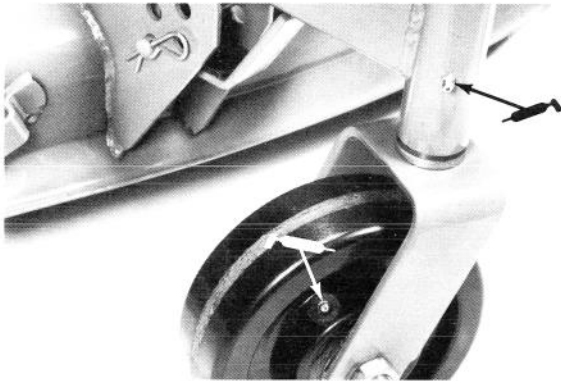

Figure 7
1. The cutting unit must be lubricated regularly. If machine is operated under normal conditions, lubricate blade spindle bearings, castor bearings and castor bushings with No. 2 general purpose lithium grease or molybdenum base grease, after every 8 hours of operation or daily, whichever comes first (Fig. 7 & 8).